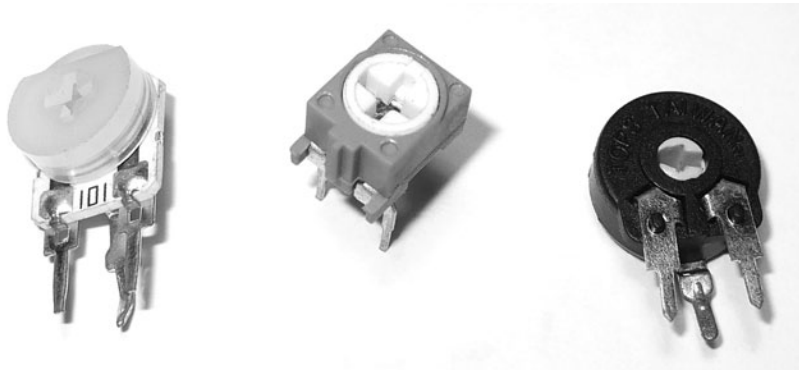

Figure 4-36: Various trimpots
You can also get miniature versions of variable resistors, known as *trimpots* or *trimmers* (see Figure 4-36). Because of their size, trimpots are more useful for making adjustments in circuits, but they're also very useful for breadboard work because they can be slotted in.
**NOTE** When shopping for trimpots, take note of the type. Often you will want one that is easy to adjust with a screwdriver that you have on hand, and the enclosed types, as pictured in Figure 4-36, last longer than the cheaper, open contact types.